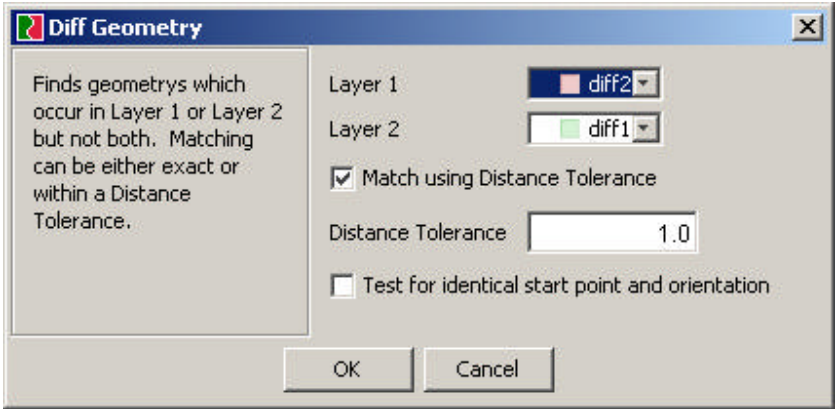

Figure 5-1 – Diff Geometry dialog
- In the Diff Geometry dialog (see Figure 5-1) select the layers to process.